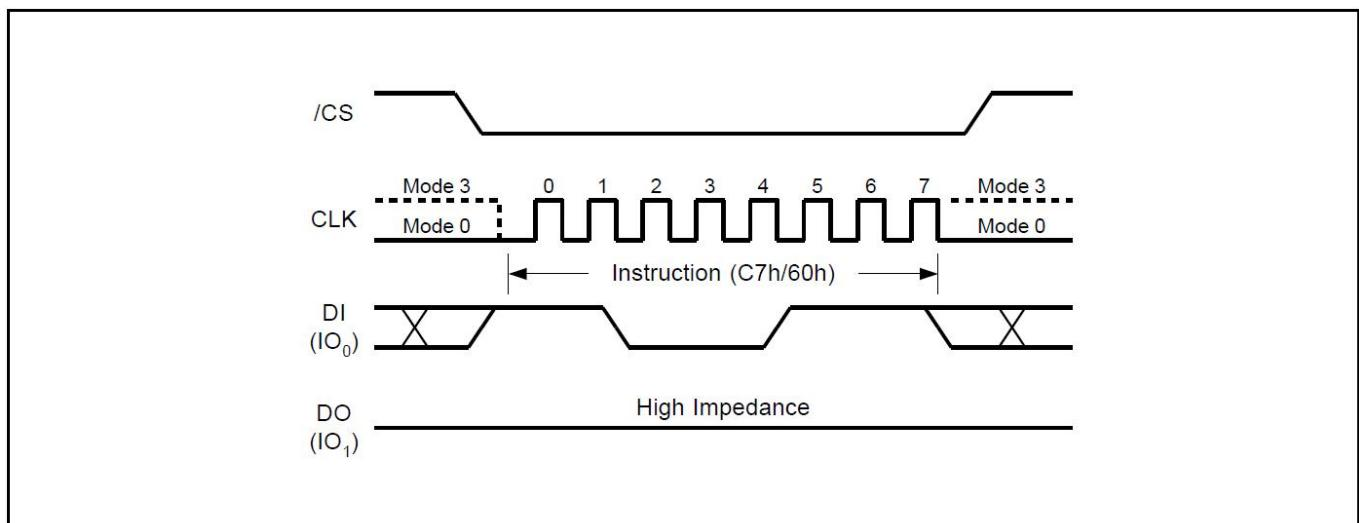

Figure19. Chip Erase Sequence Diagram
The Deep Power-Down Mode automatically stops at Power-Down, and the device always in the Standby Mode after Power- Up. The Deep Power-Down command sequence: CS# goes low → sending Deep Power-Down command → CS# goes high. The command sequence is shown in Figure19. CS# must be driven high after the eighth bit of the command code has been latched in; otherwise the Deep Power-Down (DP) command is not executed. As soon as CS# is driven high, it requires a delay of  $t_{DP}$  before the supply current is reduced to  $ICC2$  and the Deep Power-Down Mode is entered. Any Deep Power- Down (DP) command, while an Erase, Program or Write cycle is in progress, is rejected without having any effects on the cycle that is in progress.